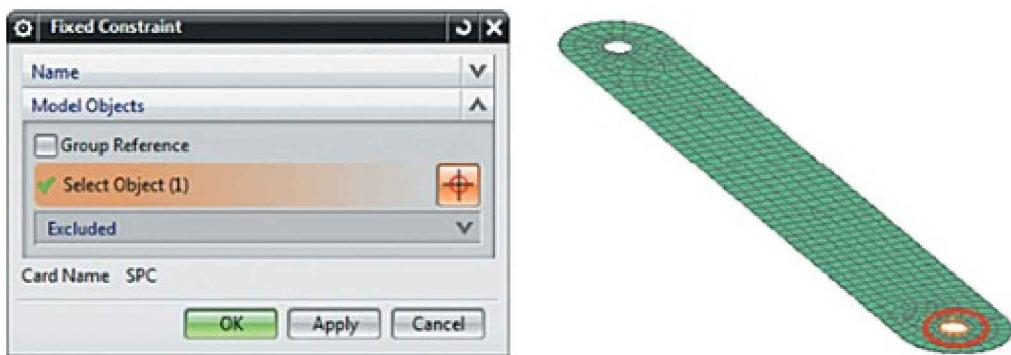

Figure 2.10. Constraining all degrees of freedom
4.1. To create degree of freedom constraints for the structure, in the model tree of the Simulation Navigator tab, right-click **Constraint container** and choose **Fixed Constraint**, thereby constraining all degrees of freedom. In the dialog box, specify the following (Figure 2.10):
4.2. In the model tree of the Simulation Navigator tab, right-click **Load container** to open the shortcut menu, hold the mouse pointer over **New Load**, and choose **Force** in the submenu. In the dialog box, specify the following (Figure 2.10):
Proceed in accordance with para. 4.1 of Example 1 (Figure 2.10).